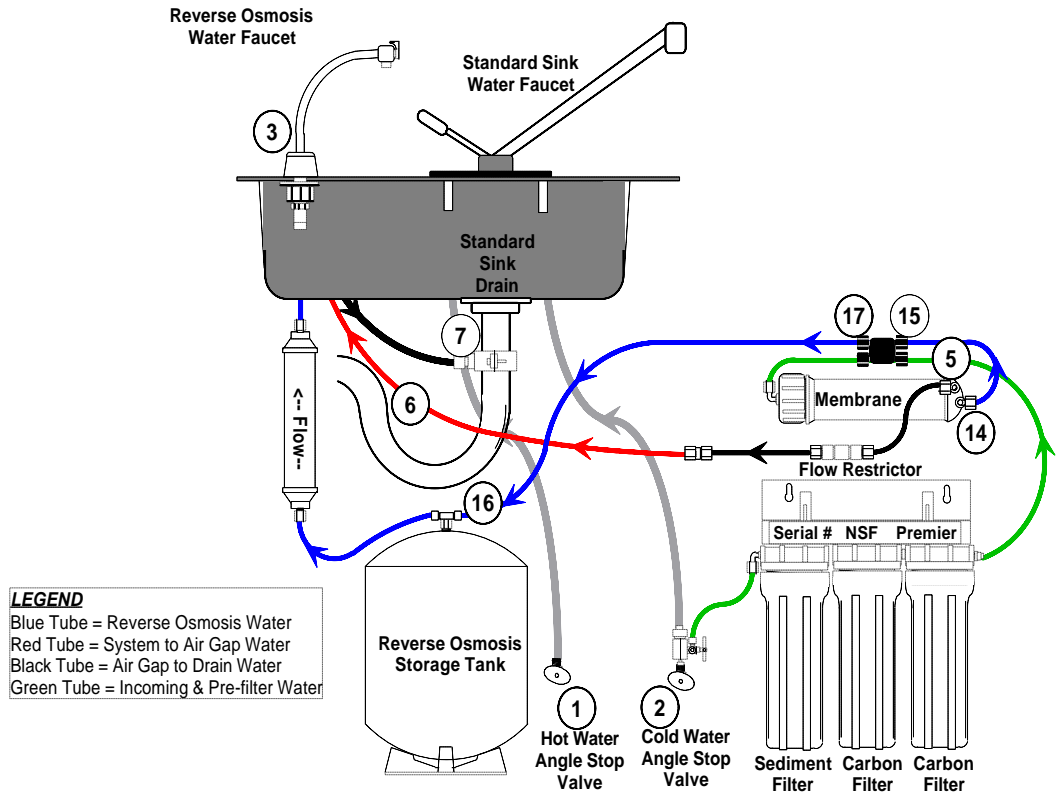

Figure 1 - Standard Reverse Osmosis System Before Kit is Installed
- Step 1 Turn off the hot (#1 in Fig. 1) and cold (#2 in Fig. 1) water supply lines to the sink at the angle stop valves. If system is hooked up to an ice maker close the valve to the ice maker.
- Step 2 Drain tank by opening the RO faucet (#3 in Fig. 1).
- Step 4 Remove waste water tube on membrane housing (#5 in Fig. 1).
- Step 5a **If system has an air gap faucet**, cut the air gap inlet tube approximately 6" from the faucet connection (#6 in Fig. 1). This tube will not be reconnected to anything.
- Step 5b **If system has a non air gap faucet**, disconnect at drain saddle (#7 in Fig. 1) and use the plug provided to seal opening where the tube was connected with drain saddle.
- Step 13 Locate the outlet of RO water from membrane filter vessel (#14 in Fig. 1). Cut the tubing at the shut off valve (#15 in Fig. 1).
- Step 14 Locate the tube going to the tank (#16 in Fig. 1). Follow it back to automatic shut off switch and cut the tube at the shut off valve (#17 in Fig. 1).